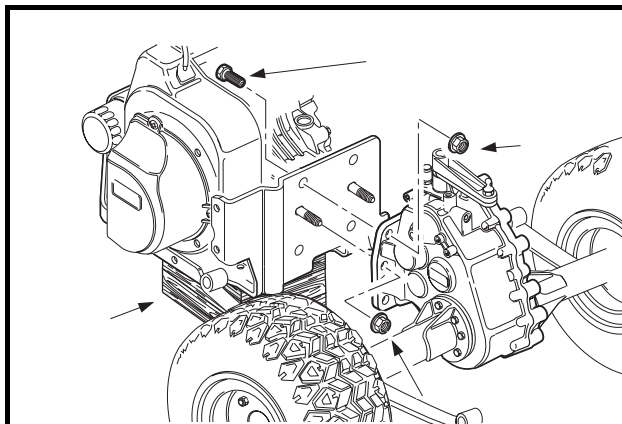

Figure 19-35 Transaxle Mounting
3. Position the transaxle mounting plate on the two mounting studs at the rear of the engine, and then install the two mounting nuts finger tight (**Figure 19-35, Page 19-14**).
5. Tighten the four corner nuts (with bolts) to 30 ft-lb (40.7 N·m). Tighten the two center nuts (on the engine block studs) to 17 ft-lb (23.1 N·m) (**Figure 19-35, Page 19-14**).